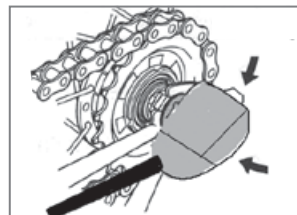

Fig. 67. Body installation
4. Install the body of gear change system, Fig. 67.